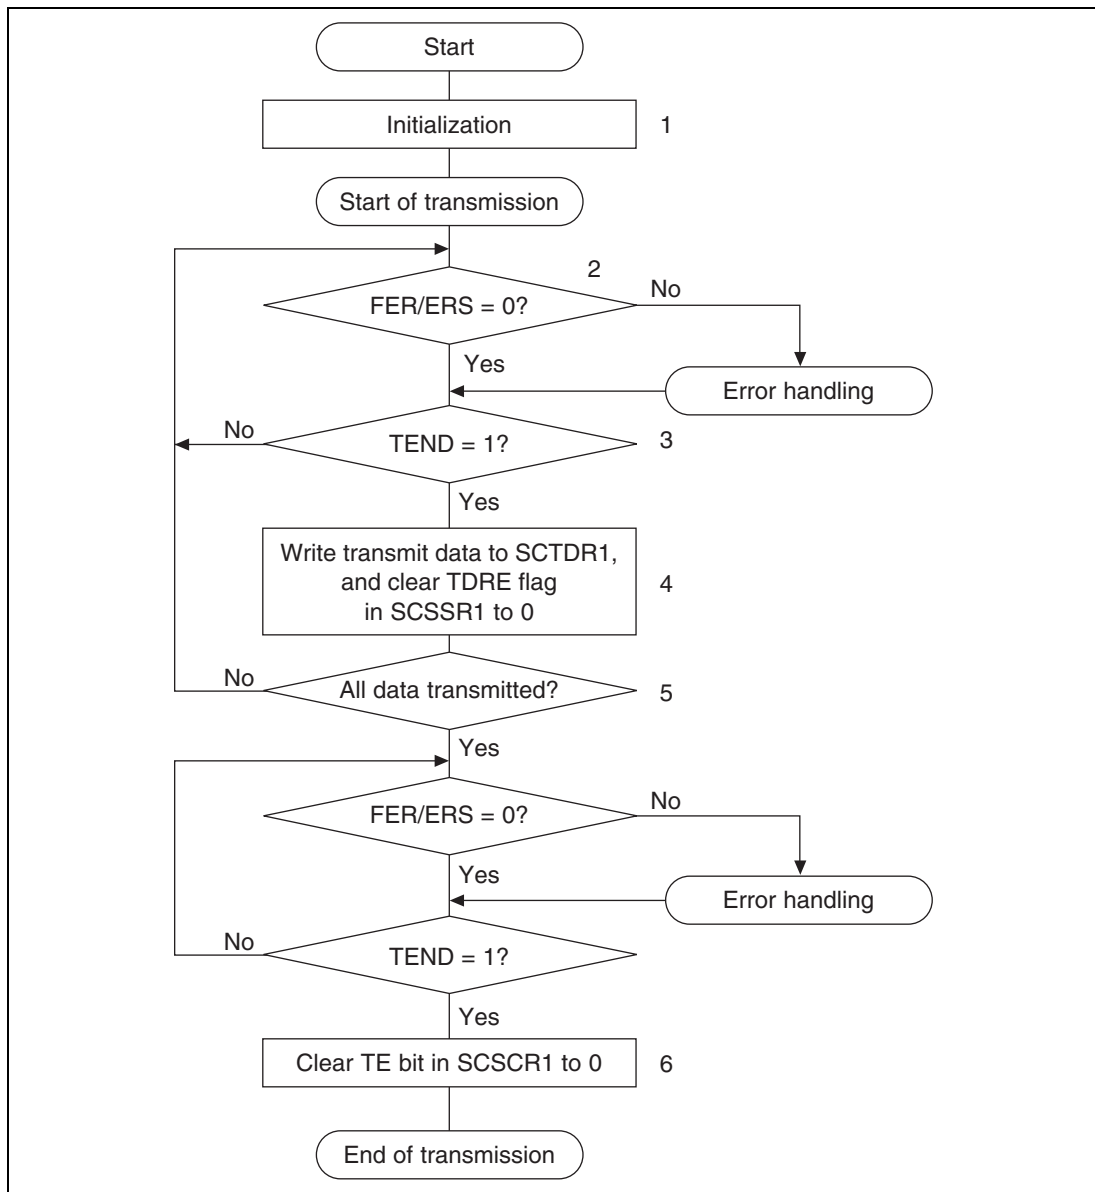

Figure 17.8 Sample Transmission Processing Flowchart
**Serial Data Transmission:** As data transmission in smart card mode involves error signal sampling and retransmission processing, the processing procedure is different from that for the normal SCI. Figure 17.8 shows a sample transmission processing flowchart.